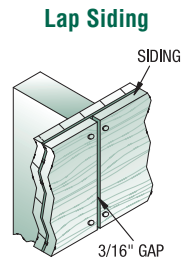

FIG. 2
- All lap products require that the butt joints be located on the studs and nailed at the joints. See Fig 2.
- Leave 3/16" gap at all butt joints, around all doors and window frames, and at joints in the soffits for all lap and square edge siding products. Caulk all gaps. See Fig 2.